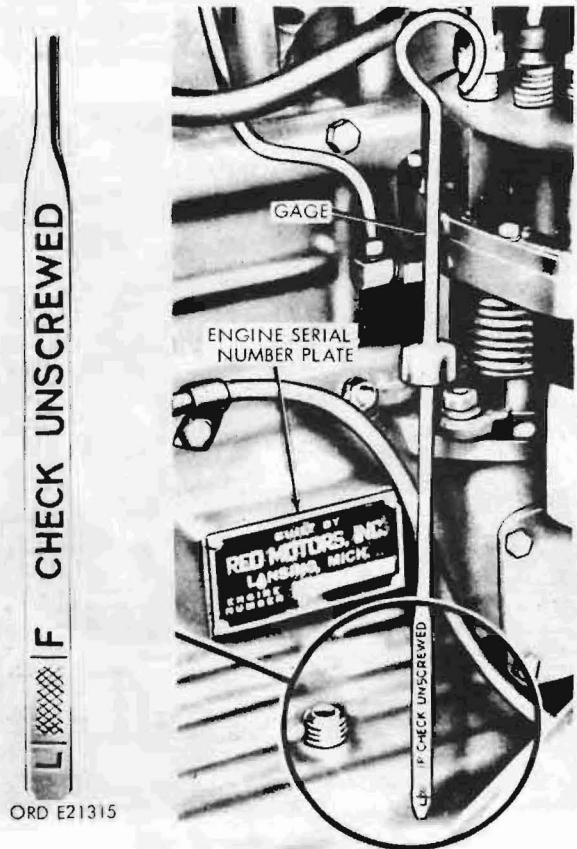

Figure 42. Gasoline engine oil level indicator.
(27) Gasoline engine oil-level indicator (fig. 42).